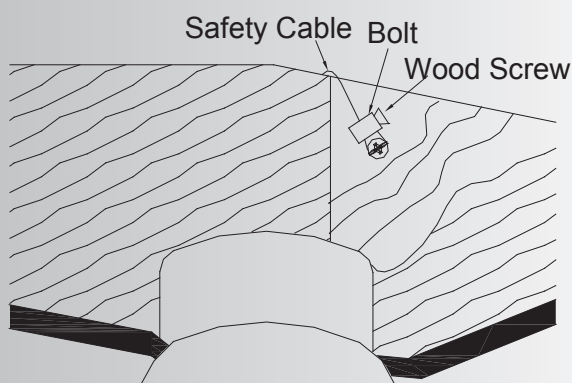

Fig. 11
**Step 2.** Insert the safety cable through the mounting bracket and one of the holes in the outlet box into the ceiling. Adjust the length of the safety cable to reach the screw and washers by pulling the extra cable through the cable clamp until the overall length is correct, put the end of the cable back through the cable clamp, forming a loop at the end of the cable. Tighten the cable clamp securely. Now, put the loop in the end of the safety cable over the wood screw and under the washer. Tighten the wood screw securely. (Fig. 11)